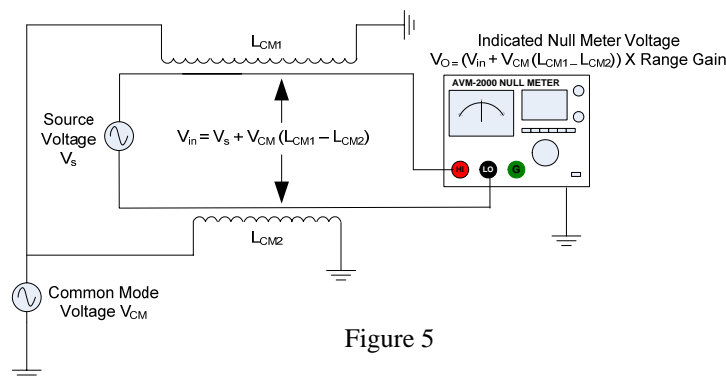

Figure 5
- Inductively coupled common mode signals where differences in HI and LO coupling inductance create a normal mode input (Figure 5)